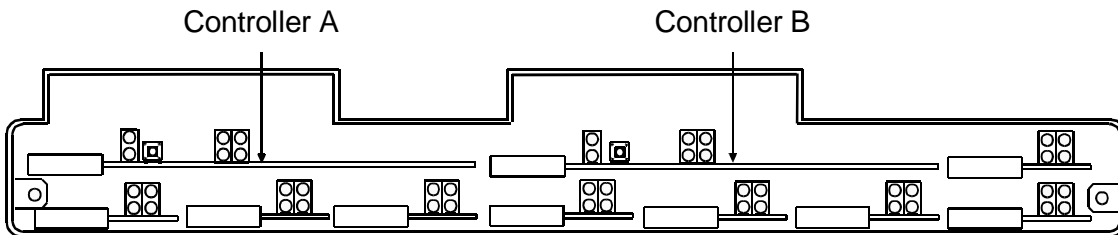

Figure 16-6. Location of Controller Cards
1. Locate empty Controller card slot (see Figure 16-6).